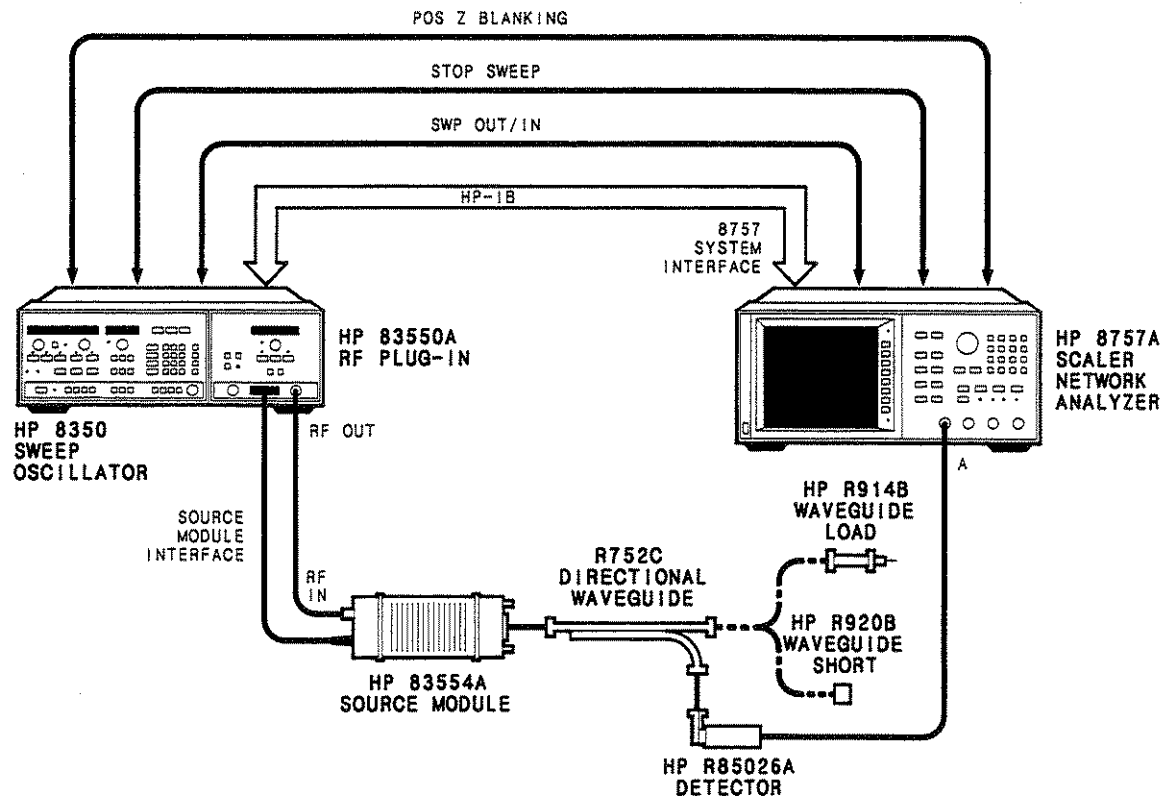

Figure 3-5. Output SWR Test Setup
1. Connect the equipment as shown in Figure 3-5 with the load connected to the waveguide.